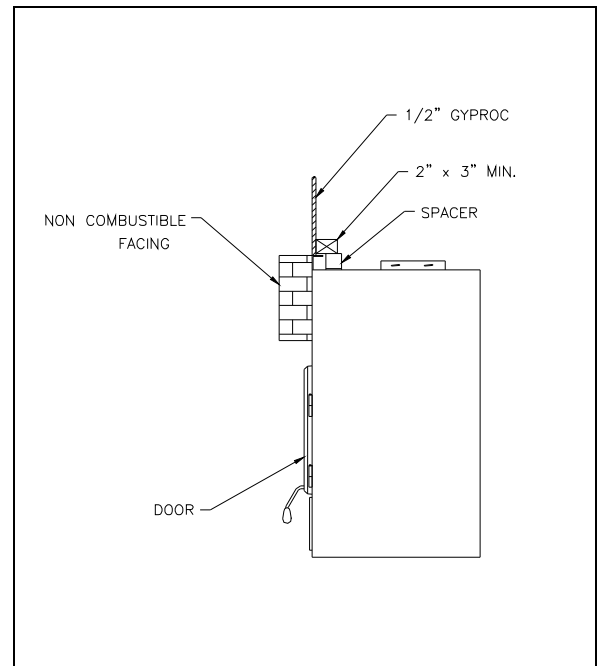

Figure 13
3. Non-combustible materials such as brick, stone or ceramic tile may project in front of and onto the fireplace facing (figure 13).